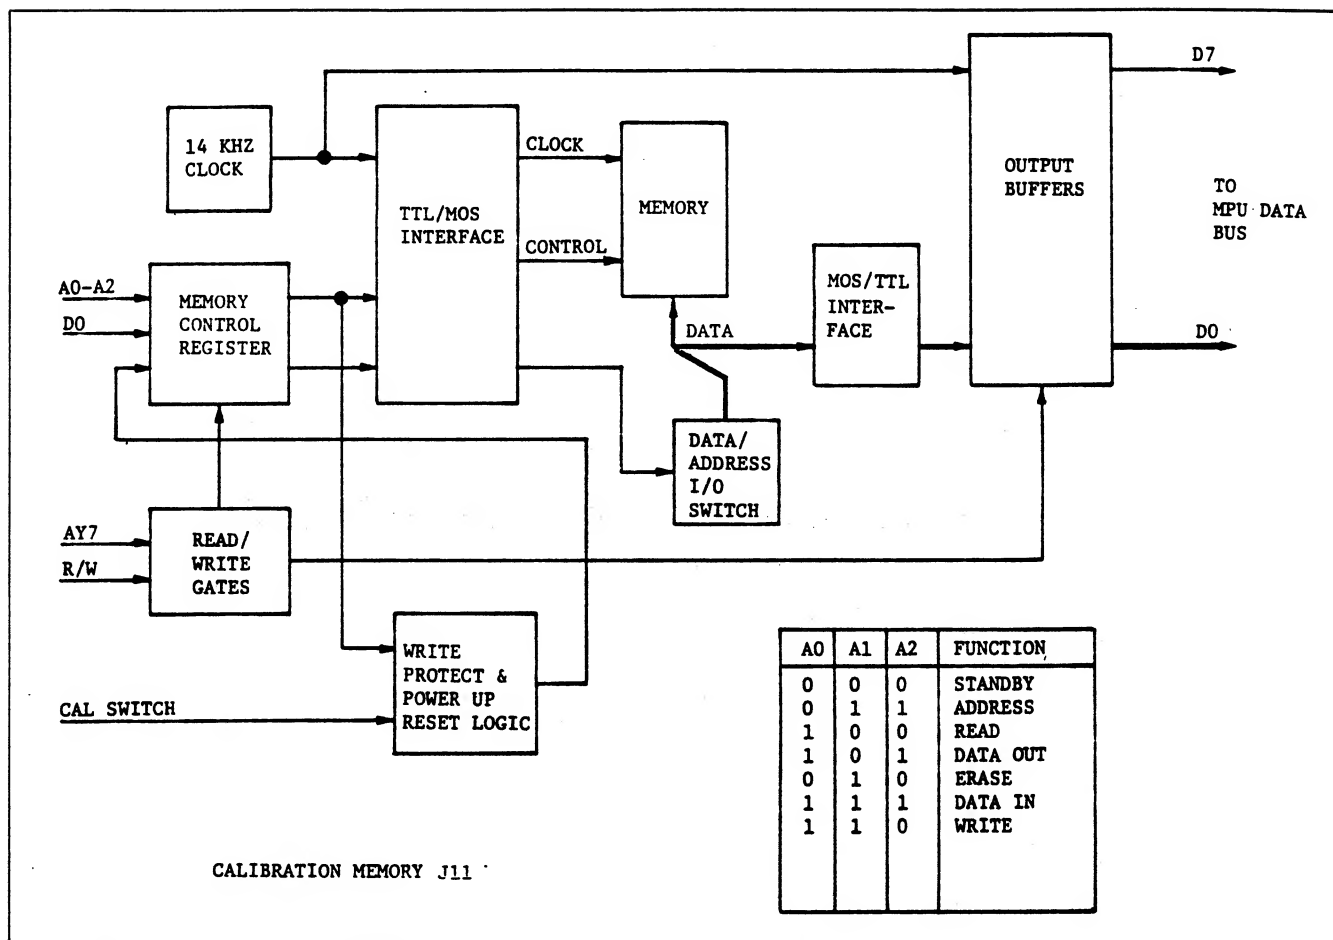

Figure 5.30 - Calibration Memory
5.4.3.5.1 The Calibration Memory (Figure 5.30) provides storage for the calibration offset factors. The circuitry consists of an electrically alterable read only memory, a clock generator and associated logic.
5.4.3.5.2 *Memory.* The memory (U4) transmits and receives data and address information on a single data line. Information on the data line is in serial form and is clocked in or out of the memory by the 14 KHz clock signal provided by U6. The three control lines for the memory are latched into U1. The table in Figure 5.30 lists the various combinations of control line addresses and the resultant functions.